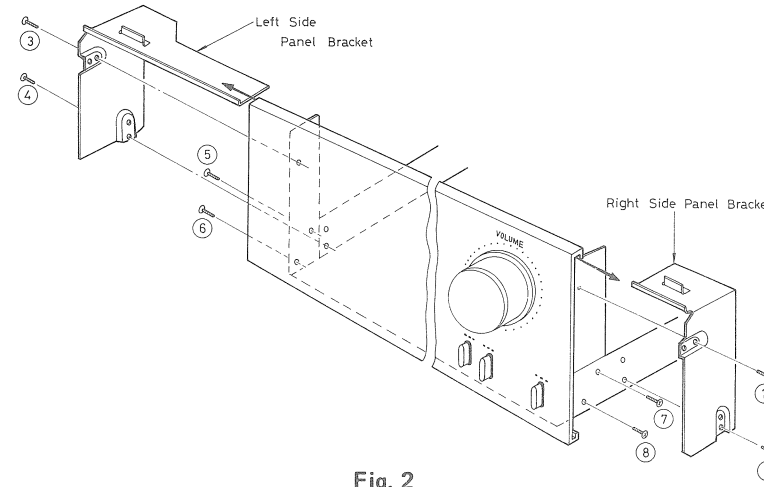

Fig. 2
2. Remove four (4) panel bracket-mounting screws, nos. ① ~ ④, as shown in fig. 2.
4. Remove four (4) panel-mounting screws, nos. ⑤ ~ ⑧, as shown in fig. 2.